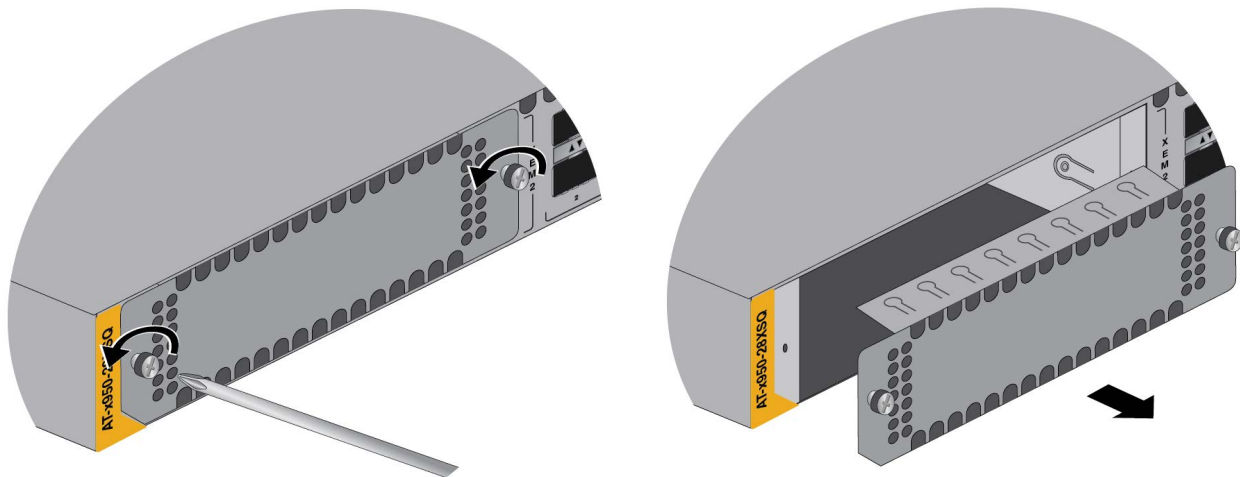

Figure 42. Removing the Blank Line Card Cover
1. Using a #2 Phillips-head screwdriver, loosen the two captive screws on the blank expansion slot panel and remove it from the switch. Refer to Figure 42.